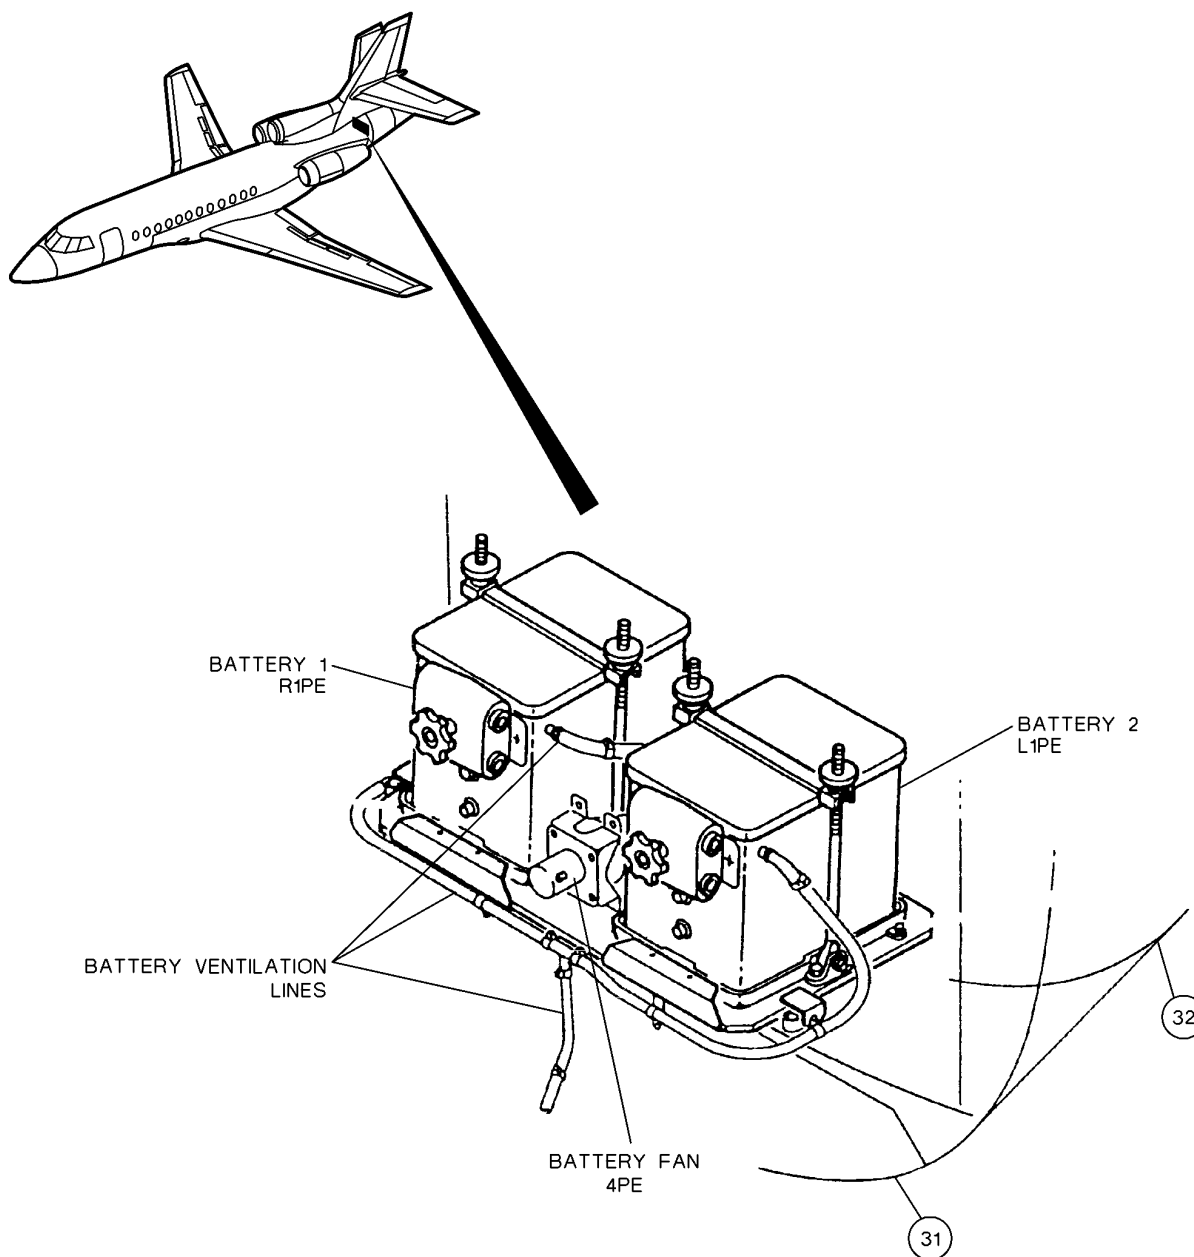
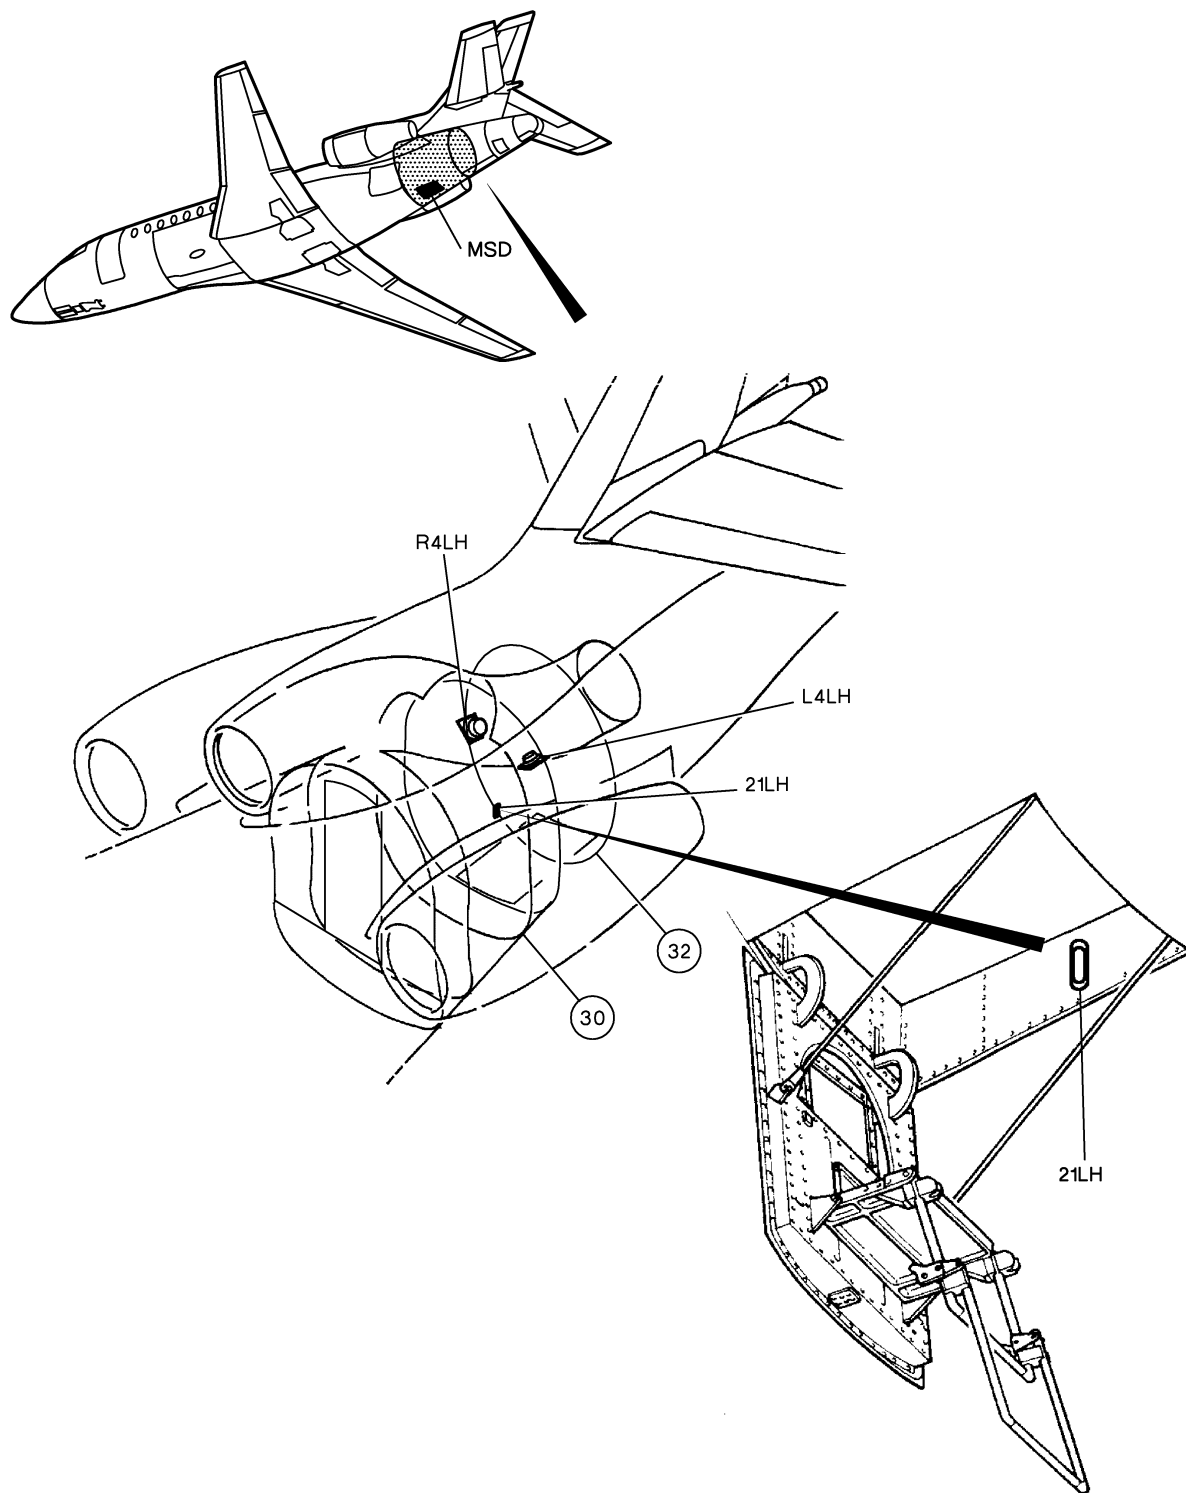

Figure 4: ELECTRICAL POWER - LOCATION OF EQUIPMENT
Figure 5: LIGHTING SYSTEM
Refer to **fig. 4** and **fig. 5**
- C. Check on batteries (**L1PE**) and (**R1PE**) (**fig. 4**):
- D. Check the lighting system (**fig. 5**)
- (1) Check the two ceiling lights (**L4LH**) and (**R4LH**) for anomalies: